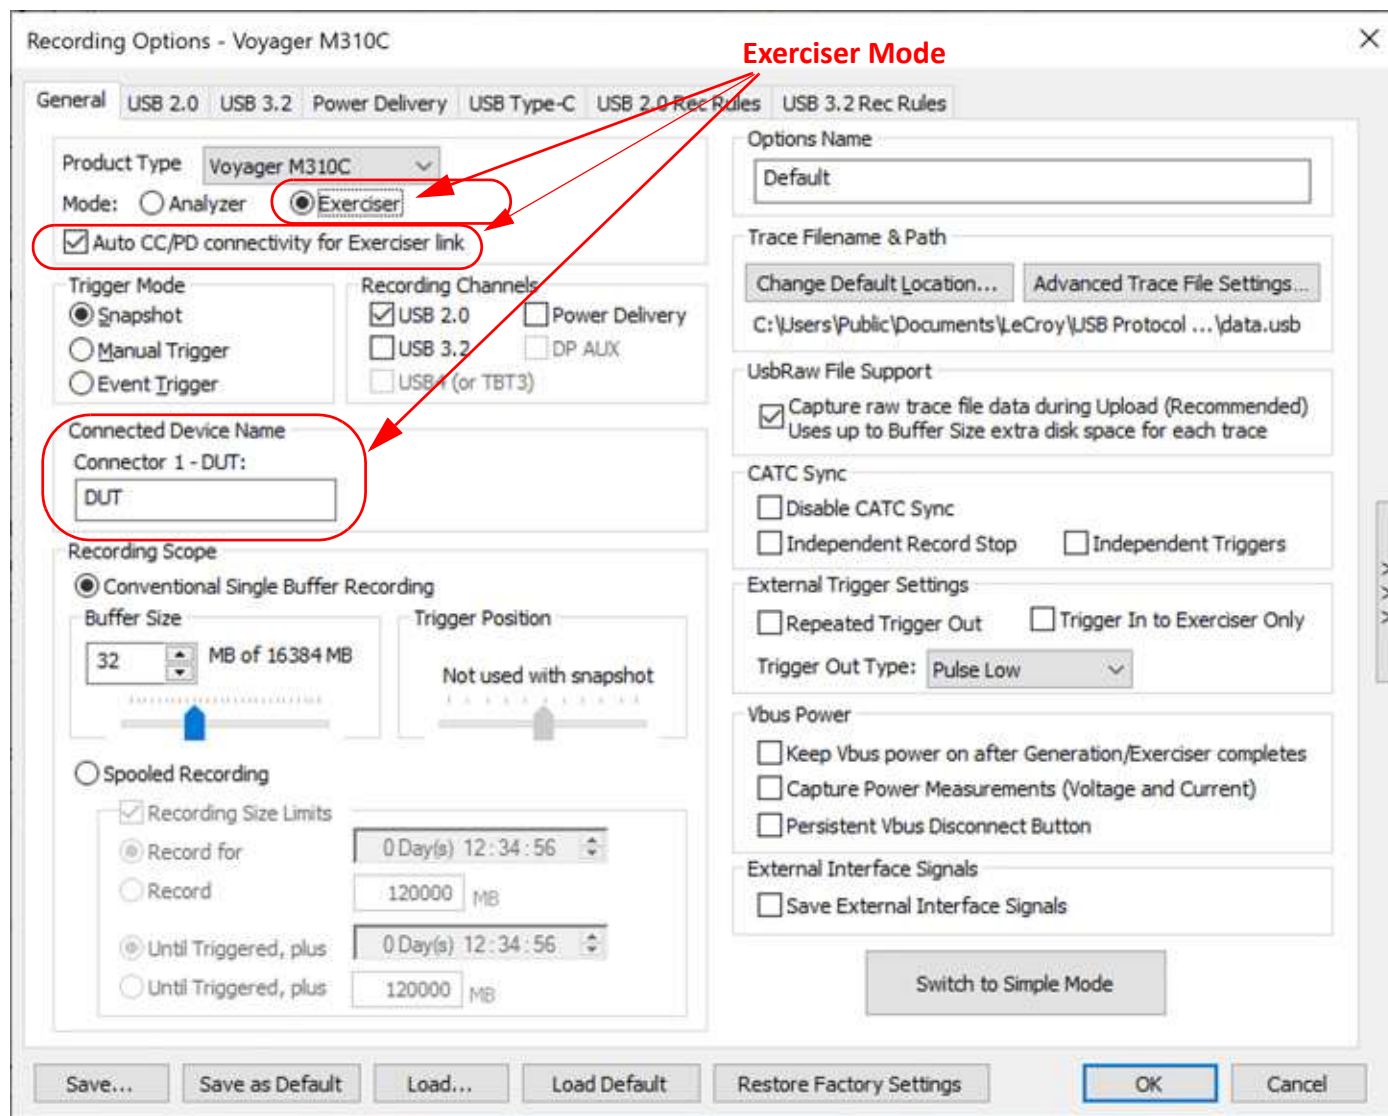

Figure 5.24: Voyager M310C: Advanced Mode Recording Options -> Exerciser Mode
In Advanced Mode (Exerciser) the Voyager M310C has options for USB2.0, USB3.2, Power Delivery, USB Type-C, USB 2.0 Rec Rules: CH0 and USB3.2 (SS) Rec Rules. It also has an option for Auto CC/PD connectivity for Exerciser Link and a single connection to the DUT. See Figure 5.24.